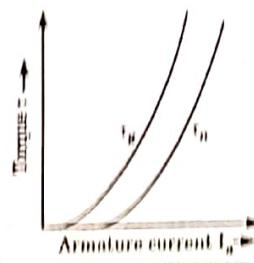

Fig. 3.2.2. Torque-armature current characteristic of a DC series motor.
6. The characteristic changes smoothly from one curve to another. This characteristic is shown in Fig. 3.2.2.